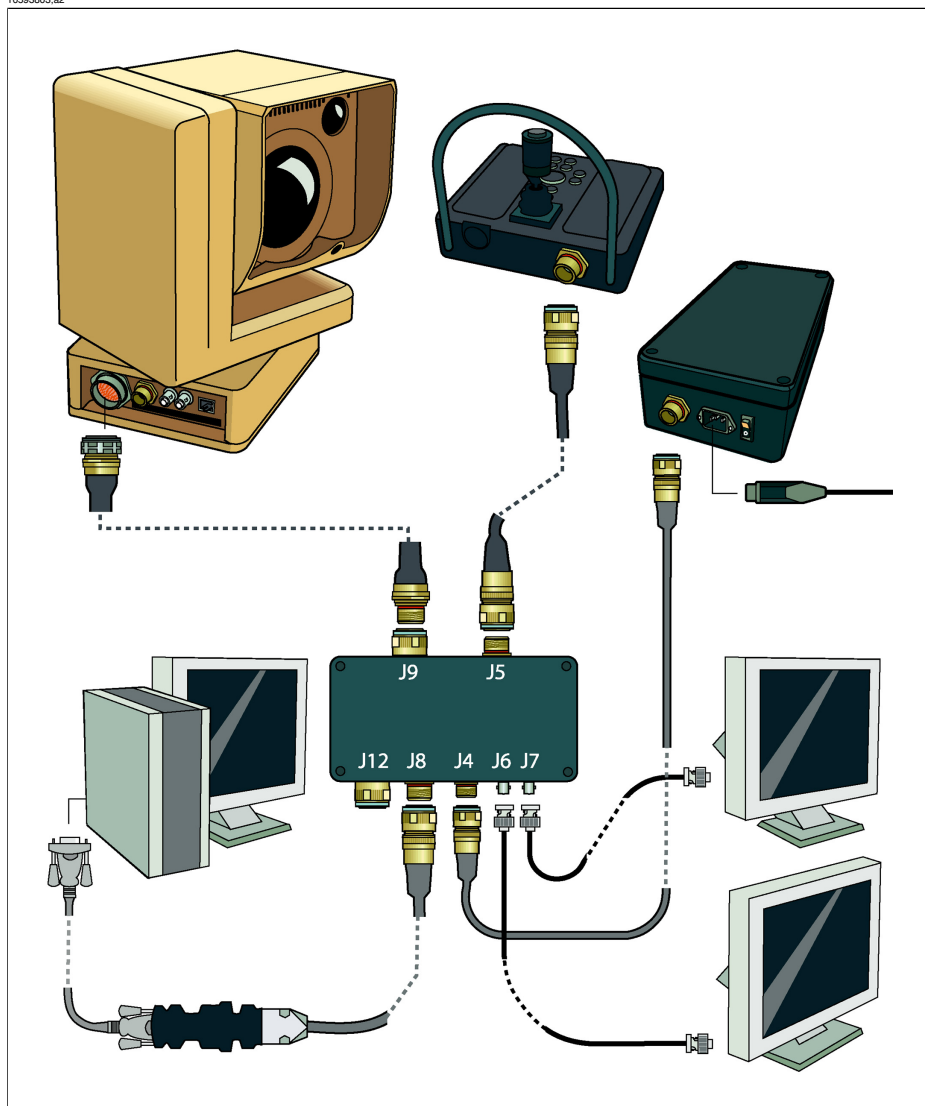
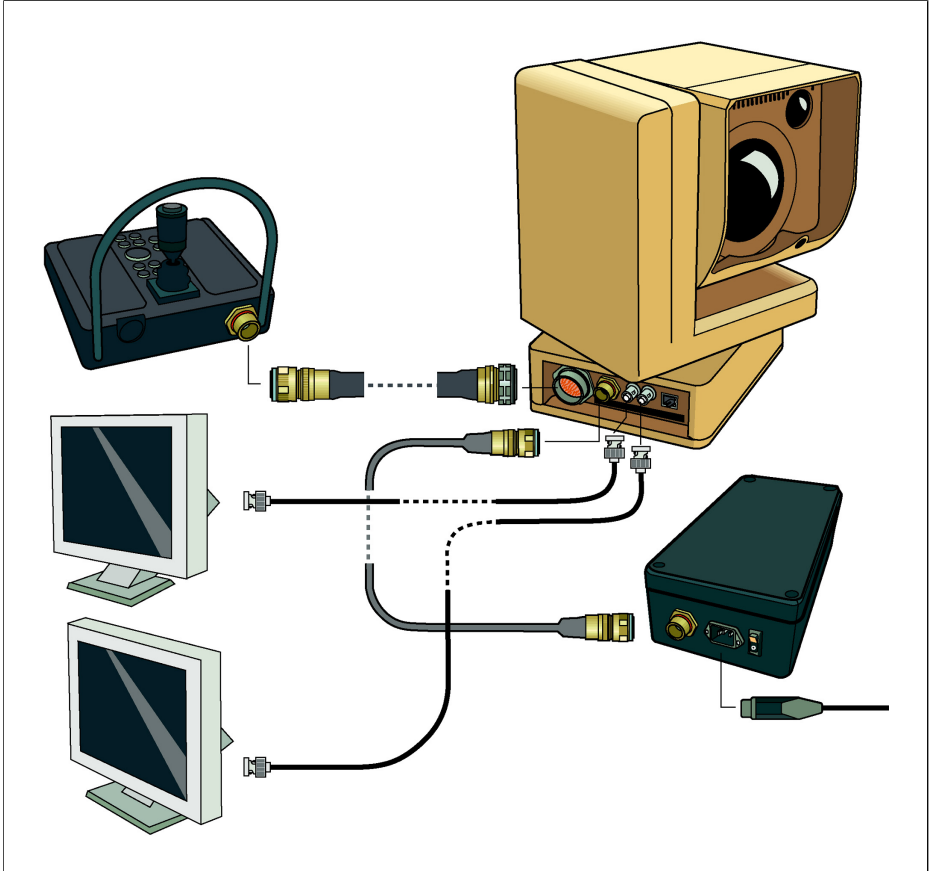

Figure 4.1 Typical system overview – Example 1
Figure 4.3 Typical system overview – Example 3
1	<ul style="list-style-type: none">■ System cable from junction box to J1 connector, or■ JCU cable from joystick controller unit to J1 connector <p>This cable connects between junction box (J9 connector) and J1 connector and is used as an 'one cable solution' when controlling the pan/tilt head from a remotely located joystick controller unit, i.e. one that is not directly connected to the pan/tilt head.</p> <p>When controlling the pan/tilt head directly using a joystick controller unit, the cable connects between the J10 connector on the joystick controller unit, and the J1 connector.</p> <p>Part No.: System cable, 1 196 215 (15 m / 50 ft), 1 196 216 (61 m / 200 ft) Part No.: JCU cable, 194 612</p> <hr/> <p>SEE ALSO: For an example in a typical system configuration, see the following figures:</p> <ul style="list-style-type: none">■ Figure 4.1 Typical system overview – Example 1 on page 15■ Figure 4.3 Typical system overview – Example 3 on page 17
2	<p>Power cable from power supply to J2 connector</p> <p>This cable connects between the power supply and the J2 connector.</p> <p>Part No.: 194 628</p> <hr/> <p>NOTE: The J2 connector must not be used to power the ThermoVision™ Sentry II when power is supplied via junction box and system cable (= J9 connector on junction box and J1 connector on pan/tilt head).</p> <p>NOTE: The J2 connector is marked J13 when the Exterior Housing Heaters Option (P/N 614 005 142) is installed.</p> <p>SEE ALSO: For an example in a typical system configuration, see figure 4.3 Typical system overview – Example 3 on page 17.</p> <hr/>
3	<p>Video cable from external monitor to J3 connector</p> <p>This cable connects between an external video monitor and the J3 connector.</p> <p>Part No.: 908 929</p> <hr/> <p>SEE ALSO: For an example in a typical system configuration, see figure 4.3 Typical system overview – Example 3 on page 17.</p> <hr/>
4	<p>Video cable from external monitor to J11 connector</p> <p>This cable connects between an external video monitor and the J11 connector.</p> <p>Part No.: 908 929</p> <hr/> <p>SEE ALSO: For an example in a typical system configuration, see figure 4.3 Typical system overview – Example 3 on page 17.</p> <hr/>
2	Host cable from host computer to J8 connector This cable connects between a host computer and the J8 connector when controlling a Sentry system using a junction box. Part No.: 614 005 140 SEE ALSO: For an example in a typical system configuration, see figure 4.1 Typical system overview – Example 1 on page 15.
3	Power cable from power supply to J4 connector This cable connects between the power supply and the J4 connector. Part No.: 194 628 SEE ALSO: For an example in a typical system configuration, see figure 4.1 Typical system overview – Example 1 on page 15.
4	Video cable from video monitor to J6 connector This cable connects between an external video monitor and the J6 connector. Part No.: 908 929 SEE ALSO: For an example in a typical system configuration, see figure 4.1 Typical system overview – Example 1 on page 15.
5	<p>Video cable from video monitor to J7 connector</p> <p>This cable connects between an external video monitor and the J7 connector.</p> <p>Part No.: 908 929</p> <hr/> <p>SEE ALSO: For an example in a typical system configuration, see figure 4.1 Typical system overview – Example 1 on page 15.</p> <hr/>
1	<p>System cable from pan/tilt head to J5 connector</p> <p>This cable connects between the pan/tilt head (J1 connector) and the J5 connector and is used as an ‘one cable solution’ when controlling the pan/tilt head from a remotely located joystick controller unit, i.e. one that is not directly connected to the pan/tilt head.</p> <p>Part No.: System cable, 1 196 215 (15 m / 50 ft), 1 196 216 (61 m / 200 ft)</p> <hr/> <p>SEE ALSO: For an example in a typical system configuration, see figure 4.1 Typical system overview – Example 1 on page 15.</p> <hr/>
2	<p>JCU cable from joystick controller unit to J9 connector</p> <p>This cable connects between the joystick controller unit (J10 connector) and the J9 connector when controlling the pan/tilt head using a junction box.</p> <p>Part No.: 194 612</p> <hr/> <p>SEE ALSO: For an example in a typical system configuration, see figure 4.1 Typical system overview – Example 1 on page 15.</p> <hr/>
1	<ul style="list-style-type: none">■ JCU cable from junction box to J10 connector, or■ JCU cable from pan/tilt head to J10 connector <p>This cable connects between junction box (J9 connector) and J10 connector and is used as an 'one cable solution' when controlling the pan/tilt head from a remotely located joystick controller unit, i.e. one that is not directly connected to the pan/tilt head.</p> <p>When controlling the pan/tilt head directly, the cable connects between the J1 connector on the pan/tilt head, and the J10 connector.</p> <p>Part No.: 194 612</p> <hr/> <p>SEE ALSO: For an example in a typical system configuration, see the following figures:</p> <ul style="list-style-type: none">■ Figure 4.1 Typical system overview – Example 1 on page 15■ Figure 4.3 Typical system overview – Example 3 on page 17
1	<ul style="list-style-type: none">■ Power cable from junction box (JB) to power supply (PS), or■ Power cable from pan/tilt head (PTH) to power supply (PS) <p>This cable either connects between the J2 connector on the pan/tilt head and the power supply, or the J4 connector on the junction box and the power supply.</p> <p>Part No.: 194 628</p> <hr/> <p>SEE ALSO: For an example in a typical system configuration, see the following figures:</p> <ul style="list-style-type: none">■ Figure 4.1 Typical system overview – Example 1 on page 15■ Figure 4.3 Typical system overview – Example 3 on page 17 <hr/>
2	<p>Power cable from mains to power supply (PS)</p> <p>This cable is shipped either with a European or US standard mains plug. It connects between mains and power supply.</p> <hr/> <p>SEE ALSO: For an example in a typical system configuration, see figure 4.1 – Typical system overview – Example 1 on page 15.</p> <hr/>